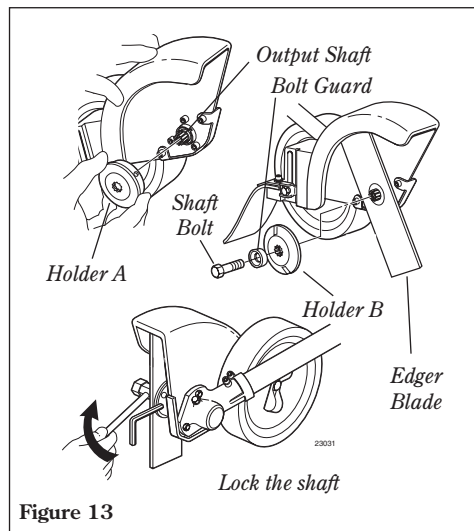

Figure 13
1. Install the holder A onto the output shaft. See Figure 13.
2. Mount the edger blade and holder B onto the output shaft, and then install the bolt guard and shaft bolt (turn bolt counterclockwise to install). See Figure 13.
3. Align the hole in holder A with the matched hole in the gearcase, and then use the hex wrench to temporarily lock the output shaft. See Figure 13.
4. Use the combination wrench to firmly tighten the shaft bolt. Remove the hex wrench. See Figure 13.